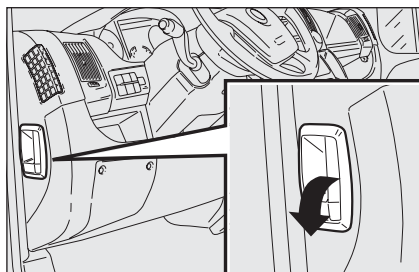

fig. 120
- ☐ pull lever **fig. 120** in the direction of the arrow;